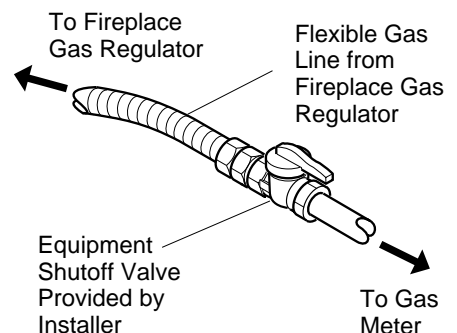

Figure 25 - Attaching Gas Lines Together
NOTICE: Most building codes do not permit concealed gas connections. A flexible gas line is provided to allow accessibility from the fireplace (see Figure 25). The flexible gas supply line connection to the equipment shutoff valve should be accessible.
3. Attach the flexible gas line to gas supply (see Figure 25). Check tightness of flexible gas line attached to gas regulator of fireplace (see Figure 25).